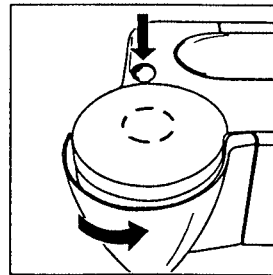

FIGURE 5
2. Insert filter paper (Figure 5)
Press the button to open the swing-out filter (Figure 1/L). The filter automatically swings out to the right (Figure 5). Insert a Size 4 Melitta Cone paper filter into the filter holder. Fold the crimped edges over first.